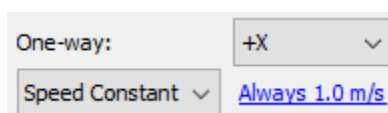

Figure 55. Changing a stair into an escalator
4. Click the **Speed Modifier** drop-down, and choose **Speed Constant** as shown in Figure 55.